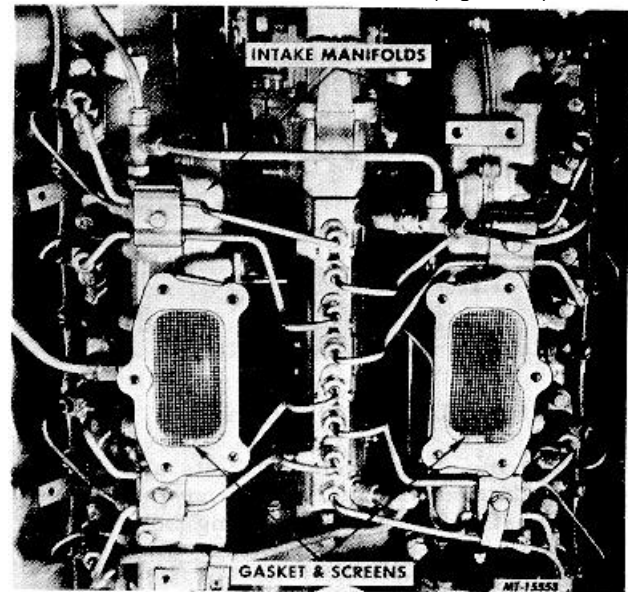

Fig. 28 Air Cleaner Adapter-to-Manifold Gaskets and Screens
15. Remove the crossover or adapter mounting gasket and screens from the intake manifolds (Figure 28).